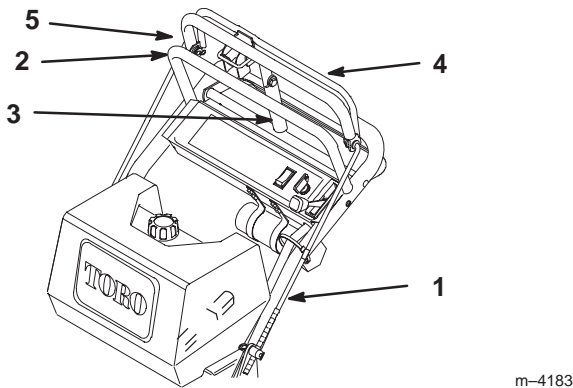

Figure 10
- Check the gap between upper control bar and fixed bar with wheel drive fully engaged. Gap should be approximately 1 to 1-1/4 in. (25–32 mm) (Fig. 10).